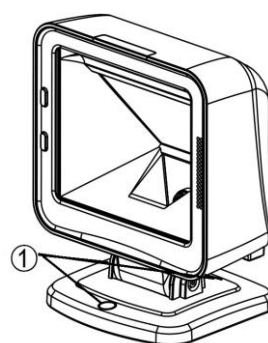

Figure 5-4
4. As shown in Figure 5-4, if you want to fix the stand on a table or other platform, you can remove two plastic stopper on the stand (see ①), then fix the stand with a table with appropriate screws.